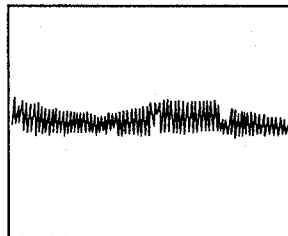

Fig. 2 Null point
6. Insert the small screwdriver into the grating adjustment hole. Turning the grating will allow you to vary the amplitude of the TRKG error waveform. Find the position where the waveform amplitude becomes minimum with a smooth envelope. (Fig. 2) (This indicates that the 3-way split laser beams are directed onto the track. This is called the null point.)